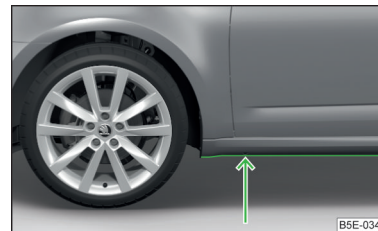

Fig. 249
- Therefore determine the depth of the water before driving through bodies of water. The water level must not reach above the lower edge of the lower brace » Fig. 249.